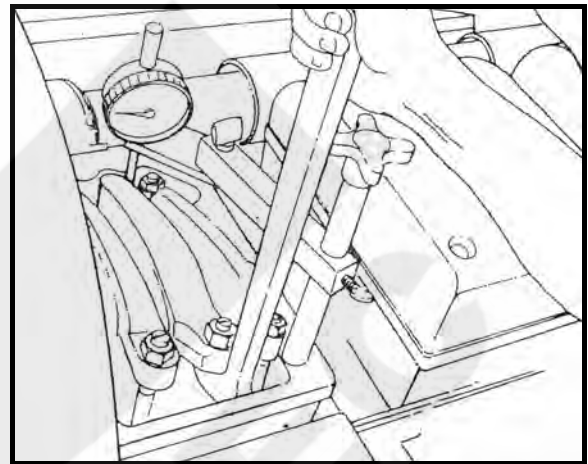

Fig. 2-28 Actuate rocker lever with 3375010
3. Use a rocker lever actuator 3375010 (Fig. 2-28) to depress the lever toward the injector until the plunger is bottomed in the cup. Allow the injector plunger to rise, then bottom it again, holds it in the bottom position set the indicator at zero. Check the extension contact with the plunger top.